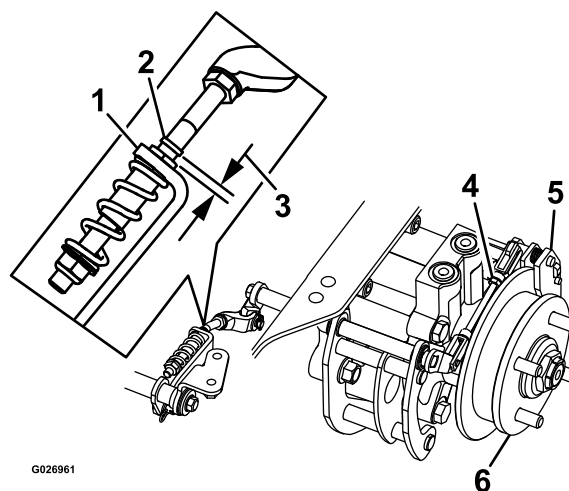

Figure 71
8. Check to see if there is a visible gap between the L-bracket and the linkage stop (Figure 71).